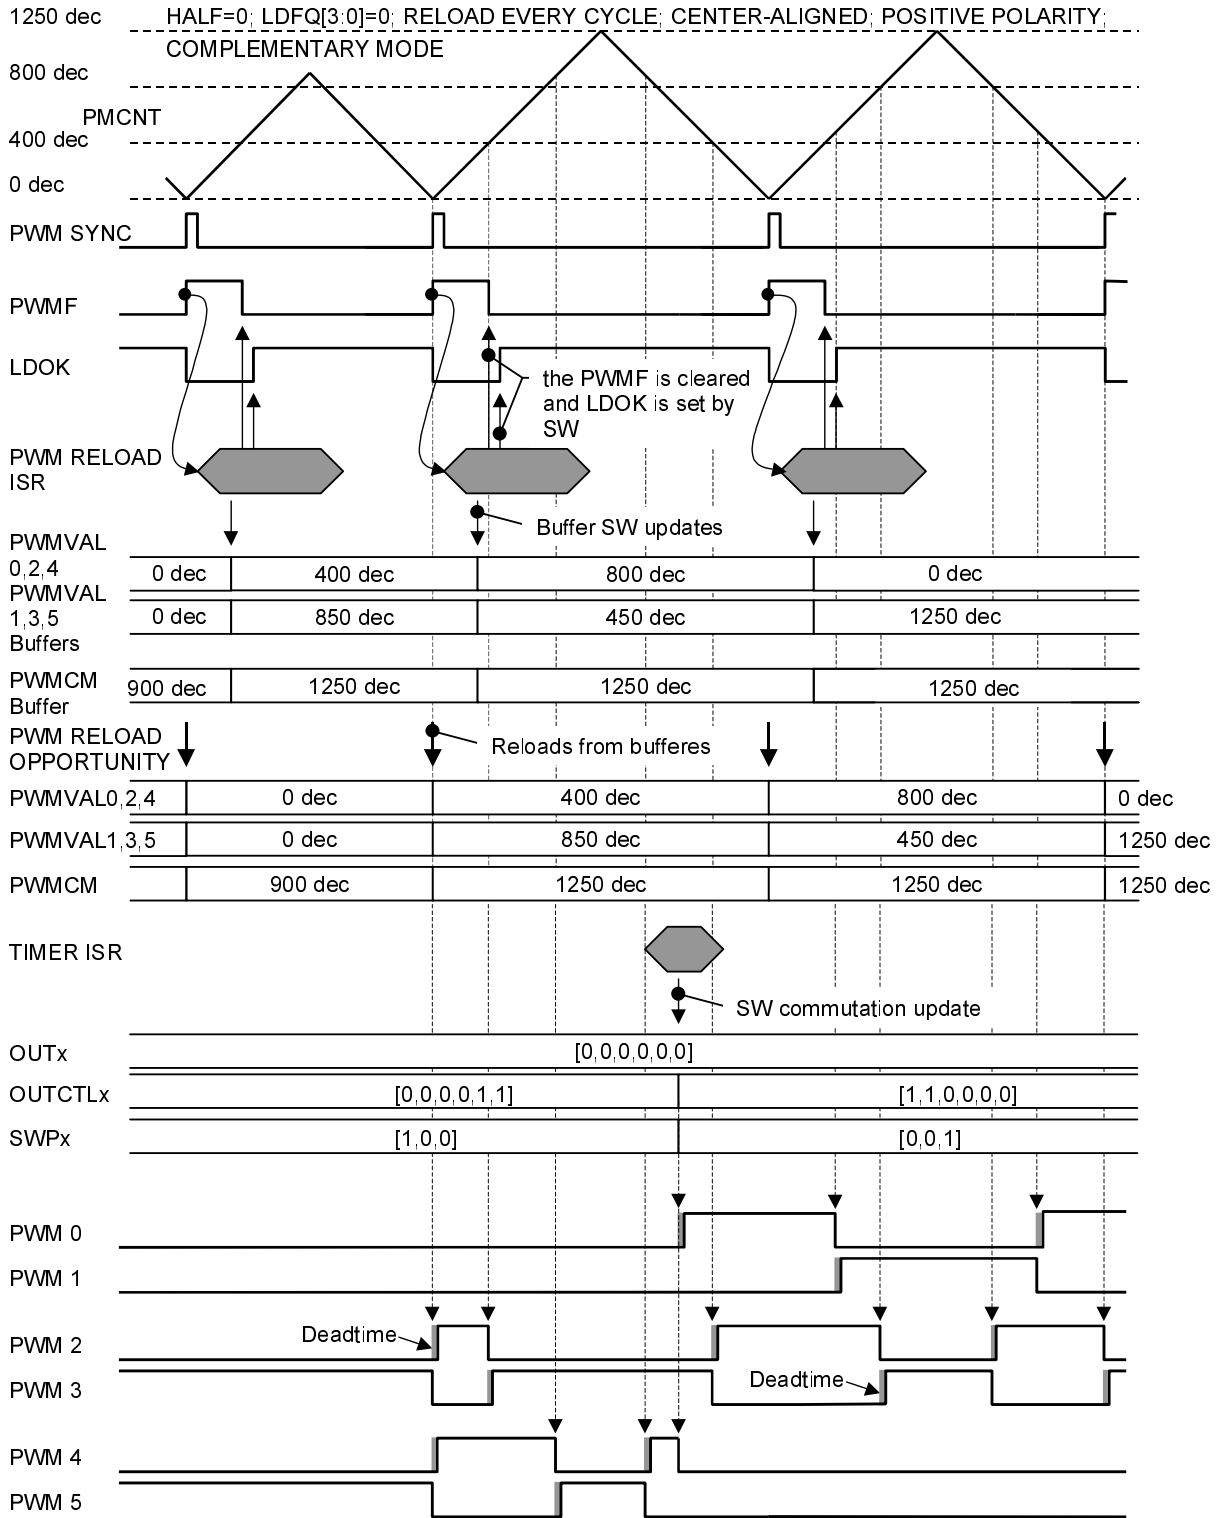

Figure 5-7. Cycle-by-cycle Modification of PWM Waveform
See Figure 5-7 for signal waveforms.
The commutation of the control signals can be performed immediately, without changing the content of the PWM value registers. If complementary mode is set the deadtime is properly inserted at PWM signal edges (see Figure 5-7).
4. **Performing the commutation.** New values of the SW output control bits OUTCTLx and the PWM generator swapping bits SWPxx are loaded to corresponding PWM module registers (see Figure 5-7). Performing the above actions periodically generates the commutation sequence, hence the rotational magnetic field. More details about commutation table and driving the BLDC motor using the Hall effect sensors can be found in Section 7.